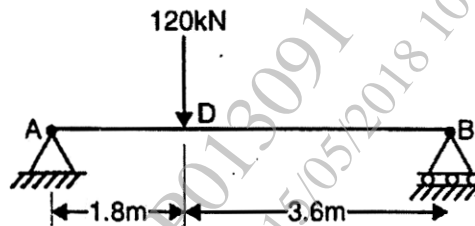

Fig. No 05
- b) The horizontal beam as shown in **Fig. No 05** is hinged at point 'A' and supported on roller at point 'B'. It carries a vertical load of 120 kN at point 'D'. Determine deflection at point 'D' by taking  $E = 200 \text{ GPa}$  and  $I = 160 \times 10^6 \text{ mm}^4$